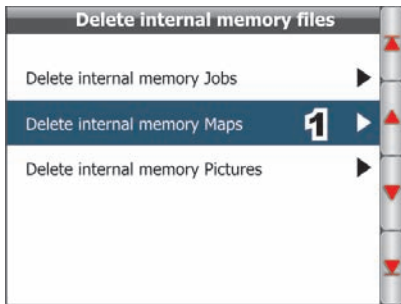

Fig. 153
- 1 Select item **Delete internal memory Maps** (Fig. 153) and press **OK**;